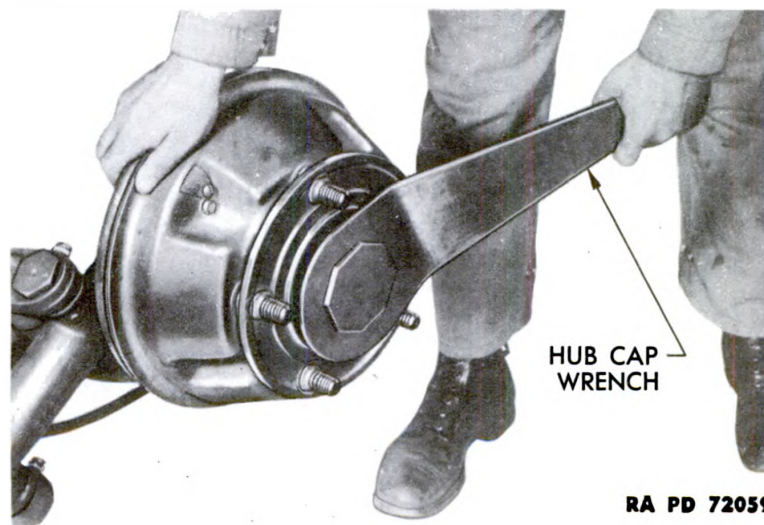

Figure 157 – Hub Cap – Removal
(1) Remove the hub cap with the hub cap wrench (fig. 157).